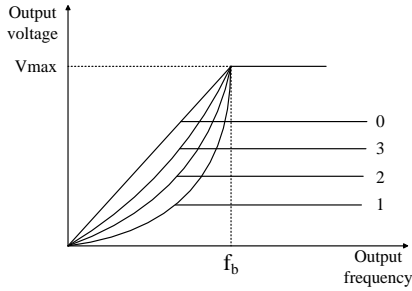

Figure 4-2 Motor V/F curve
- The default V/F is a straight line, as the line 0 in Figure 4-2.
- When P00.23 (P06.01) is set to 1, it is a 2.0 law ramp, as curve 1 in figure 4-2.
- When P00.23 (P06.01) is set to 2, it is a 1.7 law ramp, as curve 2 in figure 4-2.
- When P00.23 (P06.01) is set to 3, it is a 1.2 law ramp, as curve 3 in figure 4-2.